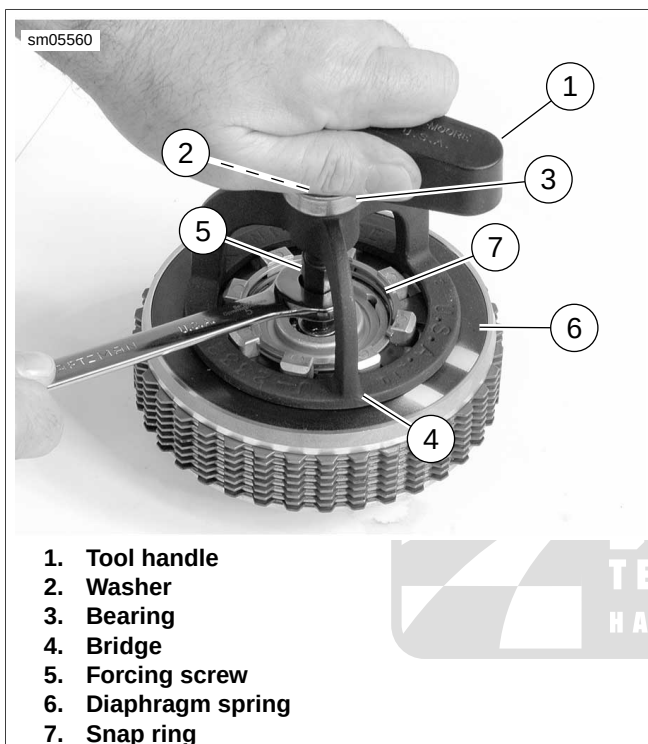

Figure 5-23. Compressing Diaphragm Spring: XR Models
2. See Figure 5-23. Thread the CLUTCH SPRING FORCING SCREW (Part No. HD-38515-91) onto the clutch adjusting screw. Place the bridge of SPRING COMPRESSING TOOL (Part No. HD-38515-A) against diaphragm spring. Thread the tool handle onto end of forcing screw.